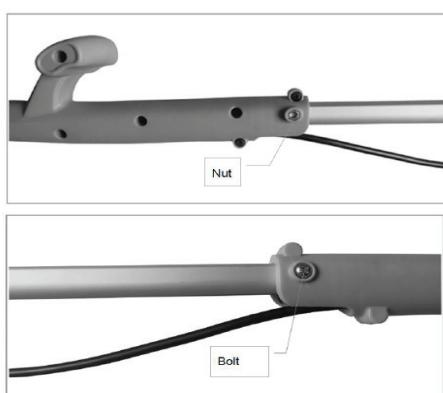

Fig 3
- Insert the bolt into the trimmer head and connection tube and secure with nut. (**Fig 3**)